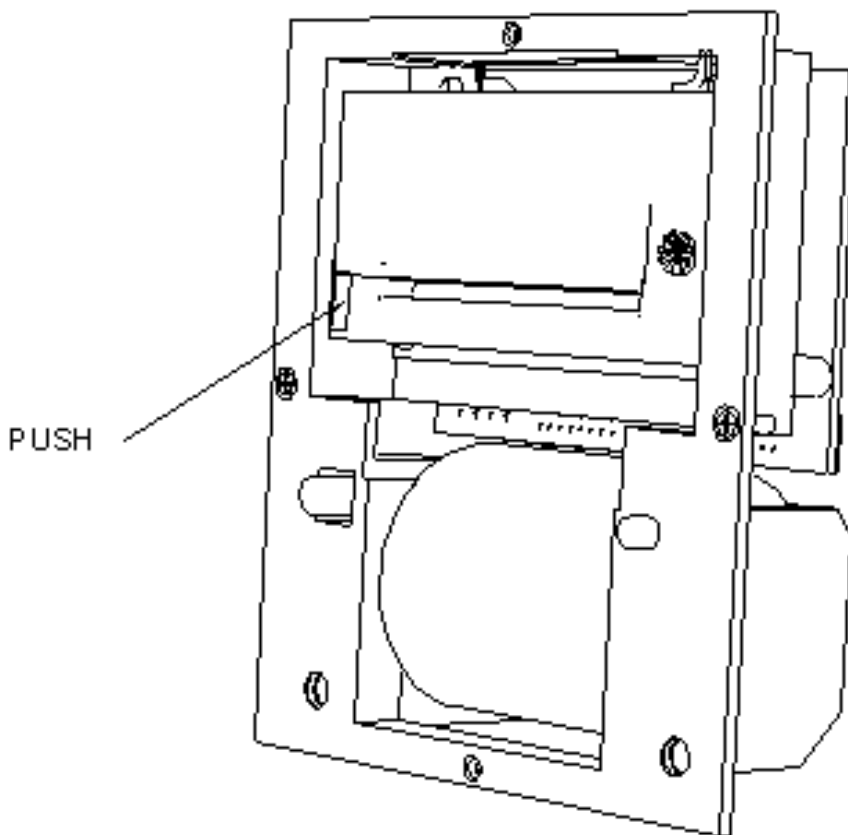

Fig. 3.2 Removing the ribbon cassette.
- 3.- To remove the ribbon cassette, push the portion marked **PUSH** with a finger. The other side of the cassette will go up (See **fig. 3.2**).